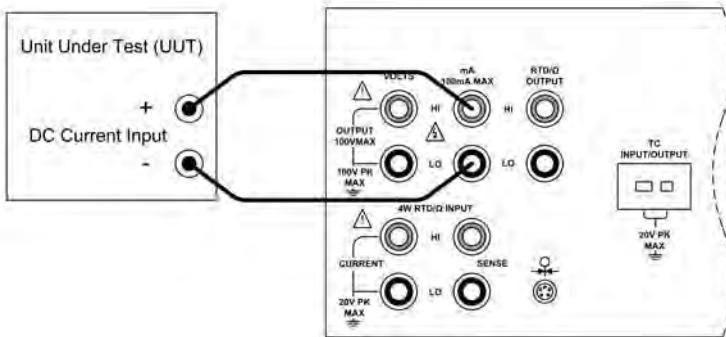

Figure 11 - DC Current Output Connection
- Connect the unit under test to the current output terminals of the CL3001 as shown in figure 11.